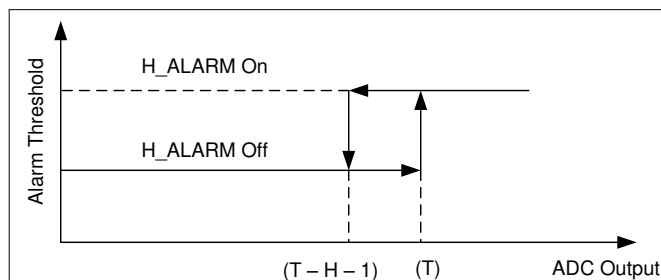

图 7-17. High ALARM Hysteresis
The device sets the input high alarm when the digital output exceeds the high alarm upper limit [high alarm threshold (T)]. The alarm resets when the digital output is less than or equal to the high alarm lower limit [high alarm (T) – H – 1]. This function is shown in 图 7-17.